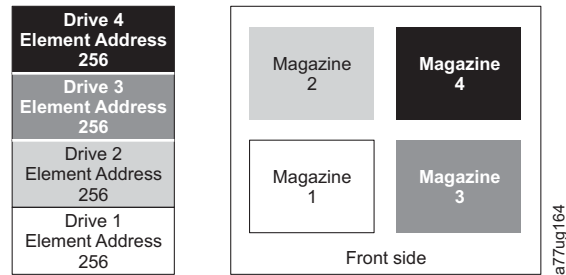

Figure B-4. Configuration of a four - partition system
- Logical Library 1: Slot1 through 23 4096 (0x1000) through 4118 (0x1016) as shown in Figure B-4 on page B-6
When configured with four logical partitions, the Element Address assignments will be as follows: DTE assignments will be as shown in Figure B-4 on page B-6.